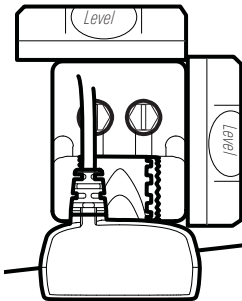

Figure 24
7. Continue to adjust until the bracket is also level from port to starboard (horizontally level as you look at the transducer from behind the boat (Figure 24).